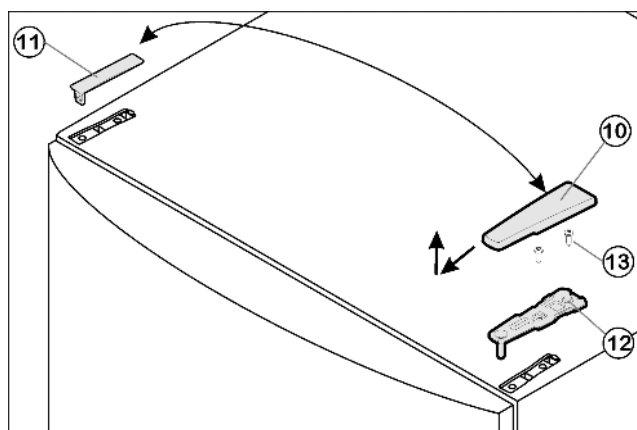

Fig. 4
- ▶ Pull off the cover Fig. 4 (10) forwards and upwards.
- ▶ Lift off the cover Fig. 4 (11).
- ▶ Unscrew the upper turn hinge Fig. 4 (12)(2x Torx® 25) Fig. 4 (13) and lift it off.
- ▶ Insert the upper turn hinge Fig. 4 (12) in the door on the new hinge side.
- ▶ Screw the upper turn hinge Fig. 4 (12) firmly into place (with 4 Nm)(2x Torx® 25) Fig. 4 (13). Possibly make preliminary holes with a bradawl or use a cordless screwdriver.
- ▶ Snap the cover Fig. 4 (10) and cover Fig. 4 (11) into place at the opposite side.